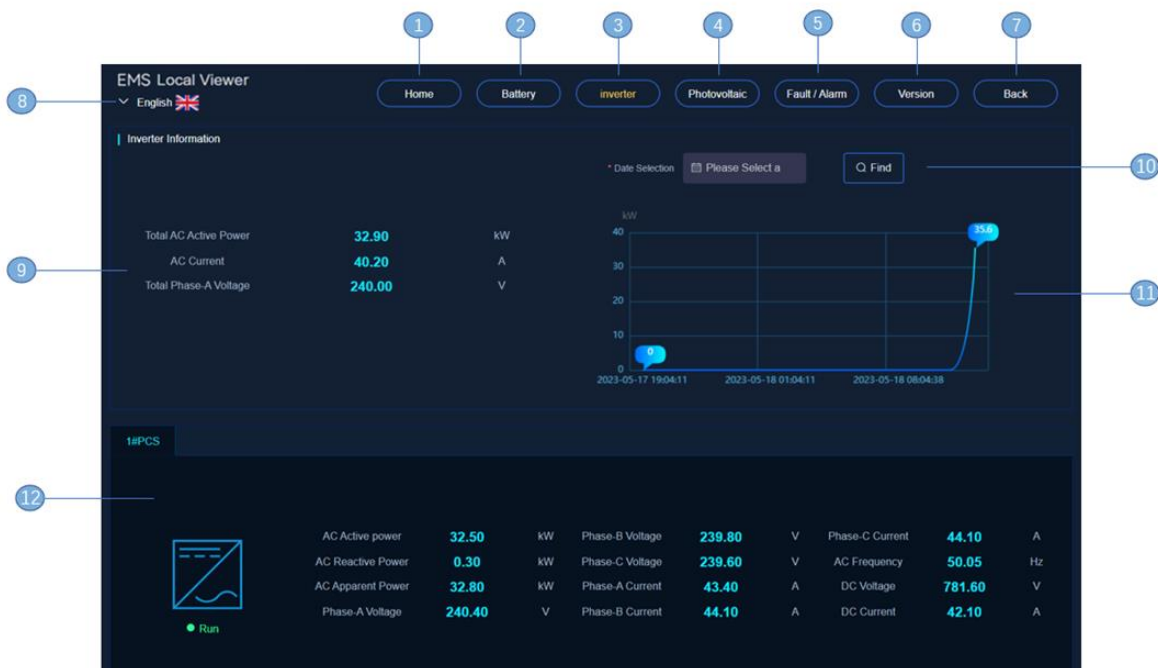

Fig. 7-8 Local web system inverter information page
7. Click the "Inverter Information" button, i.e., button 3, to enter the Inverter Information page, which allows you to view the specific operation of the inverter, and you can select the date to view the AC active power of the PCS, as shown in Figure 7-8.